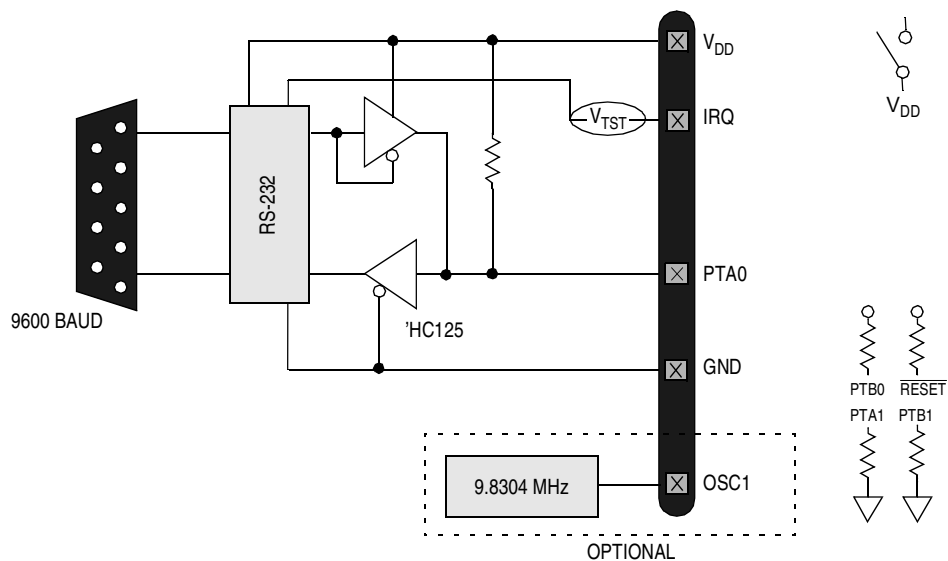

Figure 3. MC68HC908KX2/8 Standard Monitor Mode (9.8304 MHz)
- c. RS-232 communications circuit. Also needed is a 5-volt power source to power this circuit. (see Figure 3 and Figure 4)
2. Connections (see Figure 3):